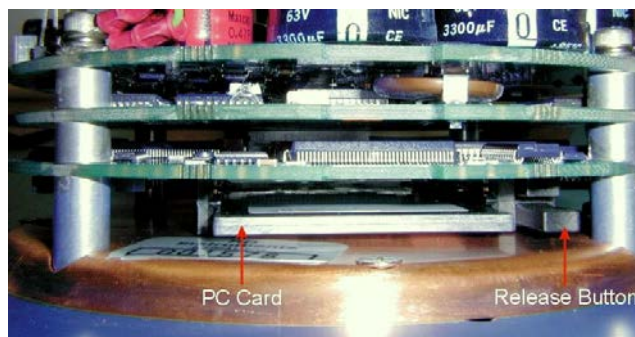

Figure 32. PC Card Recorder
The optional PC Card recorder is located on the Digital Signal Processor (DSP) board inside the Navigator's electronics (see Figure 32). To recover data, the card can be removed and used in a personal computer (PC), or left in the Navigator, and accessed by using *WinSC* (see the WinSC User's Guide).